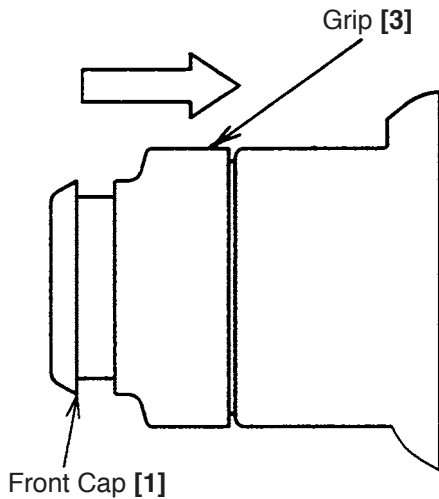
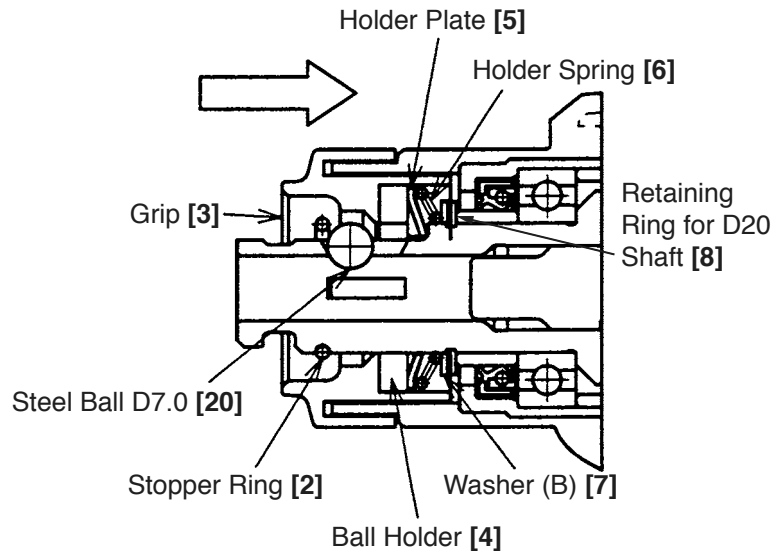

Fig. 12
Fig. 13
(2) Disassembly of the tool retainer
Slide the Grip [3] fully in the arrow direction as shown in Fig. 12 and remove the Front Cap [1]. Pulling the Grip [3] as shown in Fig. 13, remove the Stopper Ring [2] with a retaining ring puller. Then the Grip [3], Ball Holder [4], Steel Ball D7.0 [20], Holder Plate [5], Holder Spring [6] and Washer (B) [7] can be removed from the Cylinder [21].